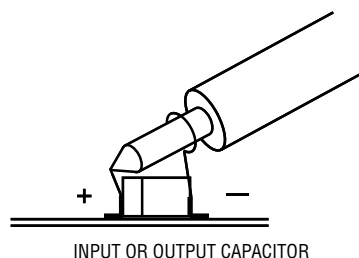

Figure 2. Scope Probe Placements for Measuring Input or Output Ripple
4. Once the proper output voltage is established, adjust the load within the operating range and observe the output voltage regulation, output voltage ripple, efficiency and other parameters. Refer to Figure 2 for proper input/output voltage ripple measurement.